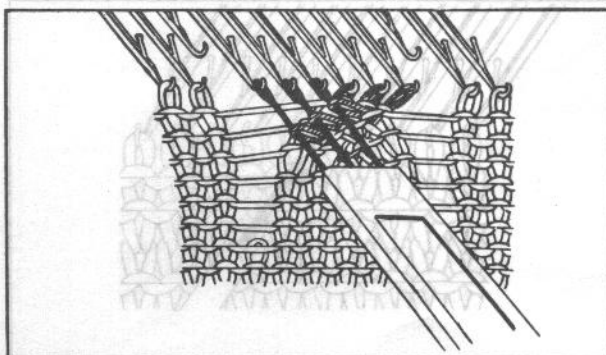

Fig. 4
4. Loops on the right are hooked on the empty needle at the left. (Fig. 4)